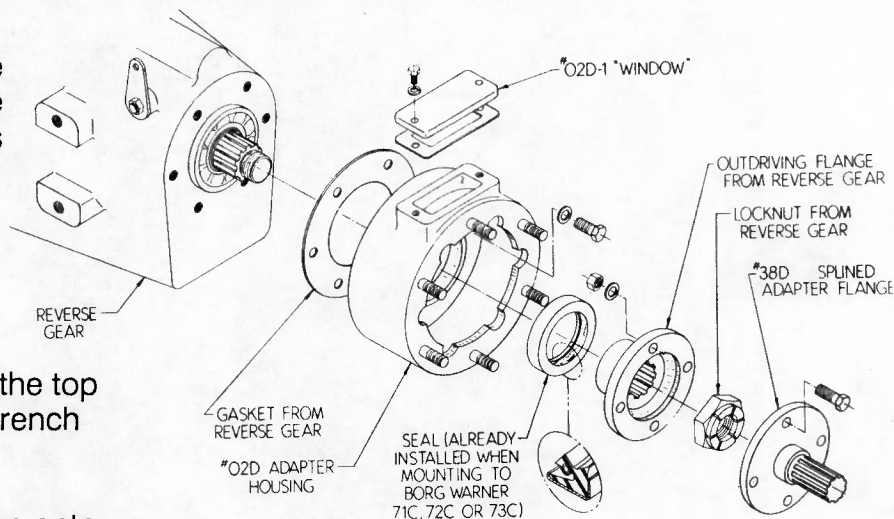

FIG. 3
V-DRIVE ASSEMBLY TO TRANSMISSION (SEE FIG. 3)
- Loosen the locknut on the output shaft of the transmission and unbolt the transmission output flange (SEE FIG. 3). Next, remove the back cover from the transmission.